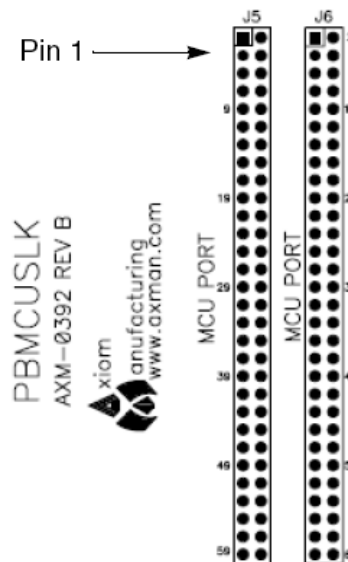

Figure 4. Installation of Application Module
1) Install the application module in the MCU PORT connector (J5) on the project board. Align pin 1 on the application module with pin 1 of the MCU PORT connector on the project board as marked by Figure 4.